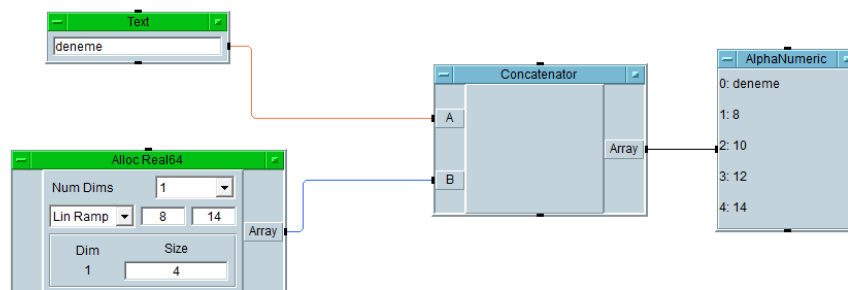

Fig. 34. Concatenating data
- Add an AlphaNumeric object into the work area and make the connections of the objects as shown in Fig. 34. When you run the program, AlphaNumeric object will display the concatenated data as shown in Fig. 34.